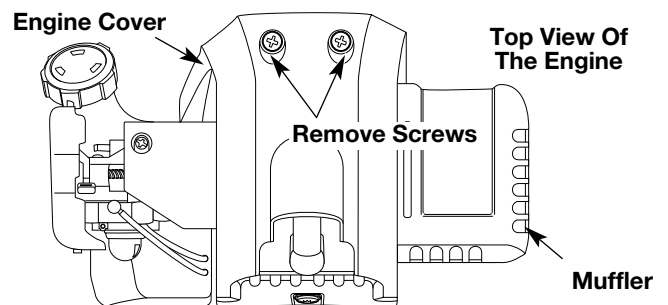

Fig. 50
2. Remove the two (2) screws on top of the engine cover with a phillips screwdriver (Fig. 50).